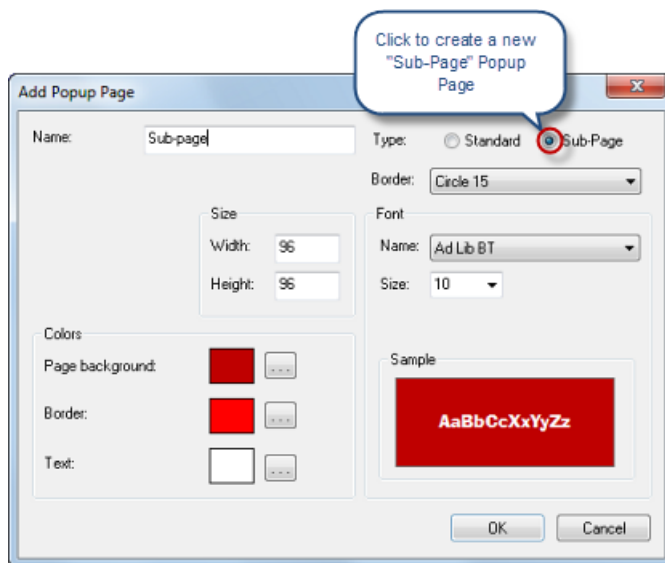

FIG. 90 Add Popup Page dialog
2. For the *Type* property, select **Sub-Page** (FIG. 90):